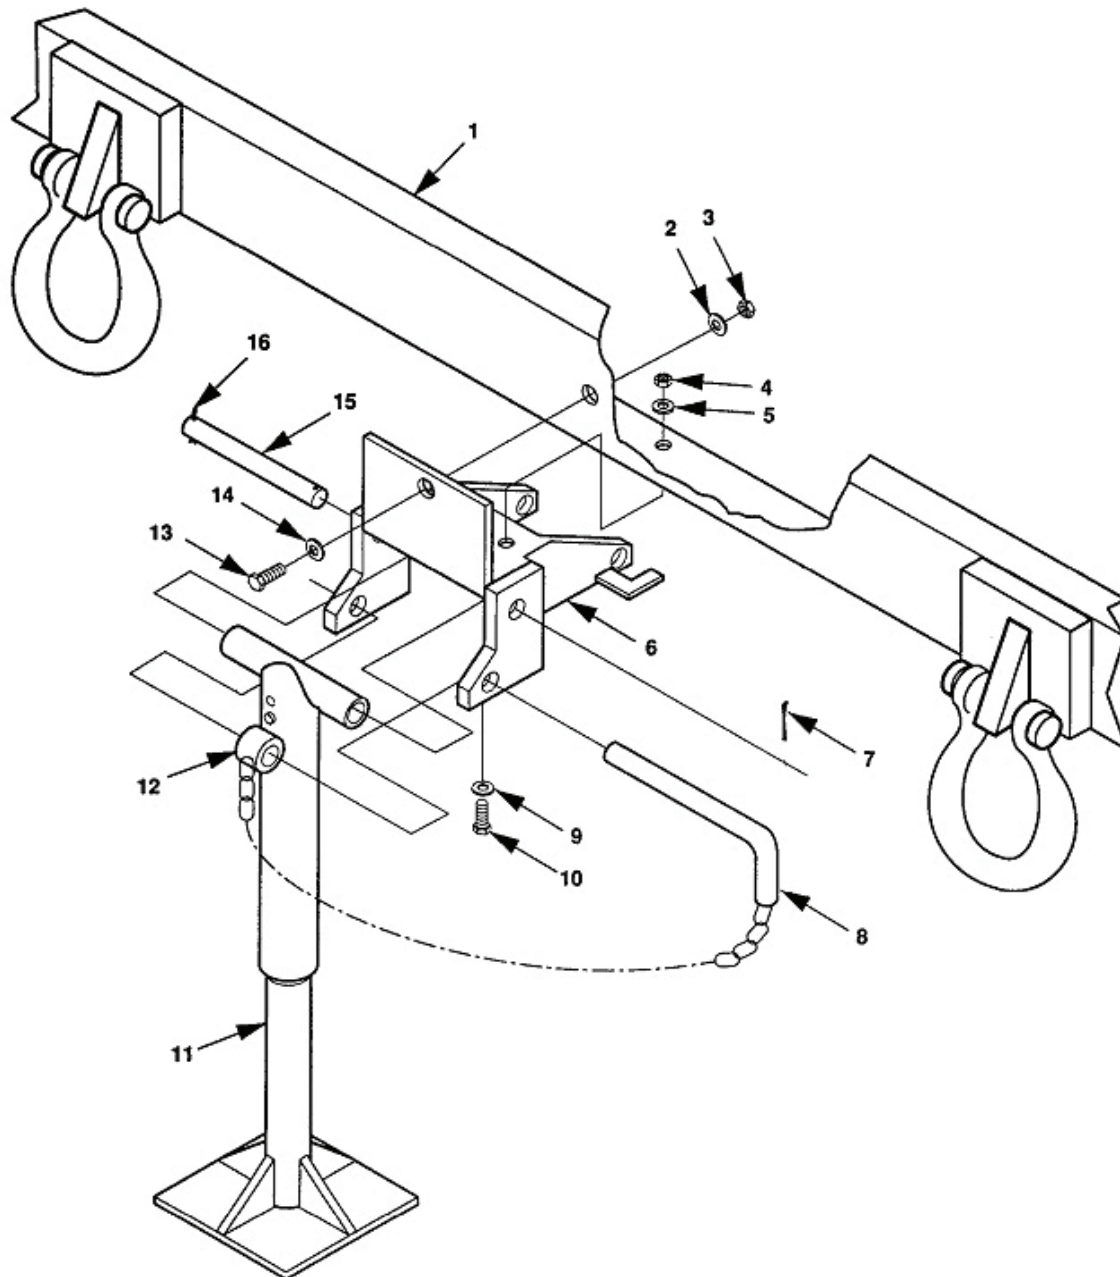

Figure 4-26. Leveling-Support Jack Replacement, 1 Ton Trailer.
2. Turn leg base (11, figure 4-26) to take weight off leveling-support jack.
3. Remove either one of two cotter pins (16 or 7) from pivot shaft (15). Discard cotter pin (16 or 7).
4. Hold leg base (11) steady and remove pivot shaft (15) with remaining retaining pin (8).
5. Lift leg base (11) slightly to take weight off retaining pin (8) and remove retaining pin (8). Move leg base (11) and attached parts out of bracket (6).
6. Remove self-locking nut (4), flat washers (5 and 9), and cap screw (10). Discard self-locking nut (4).
7. Remove self-locking nut (3), flat washers (2 and 14), and cap screw (13). Remove bracket (6) from trailer chassis (1). Discard self-locking nut (3).
1. Install bracket (6, figure 4-26) on trailer chassis (1), with flat washer (14) and cap screw (13), through mounting hole in bracket (6) on trailer chassis (1).
2. Install flat washer (2) and new self-locking nut (3) on cap screw (13).
3. Install screw (10), flat washers (9 and 5), and new self-locking nut (4).
4. Position leg base (11) in bracket (6) and install retaining pin (8) through holder (12).
5. Position leg base (11) and install pivot shaft (15).